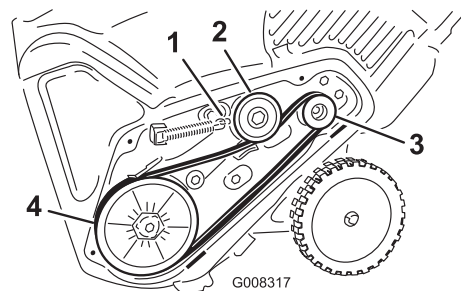

Figure 38
- Install the new drive belt, routing it as shown in (Figure 38).
8. Install the brake spring onto the idler arm (Figure 38).